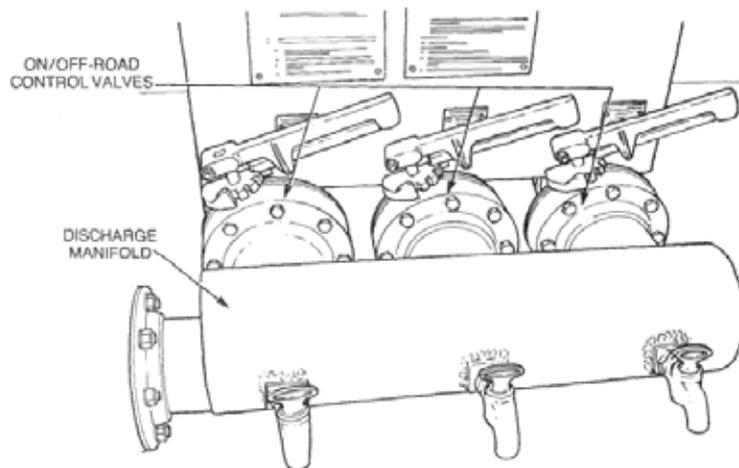

Figure 21 Heavy Duty Discharge Manifold and Control Valves
- c. Remove the nuts and bolts securing the heavy duty discharge manifold and the three on/off road control valves to the tank outlet pipes (Figure 21).